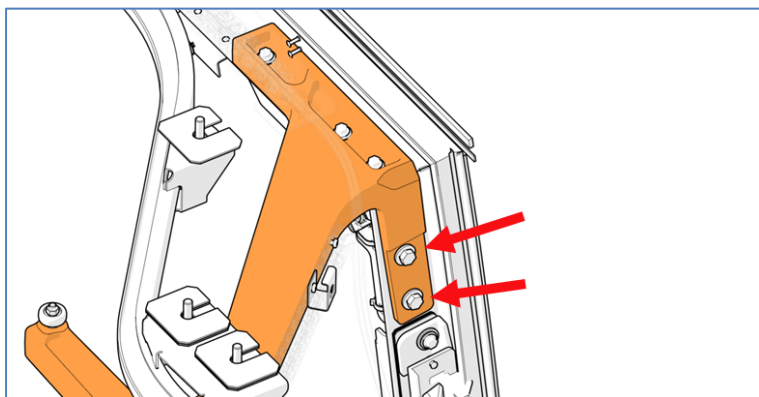

Figure 10
1. **Open the sliding door.** On the upper door arm vertical face, loosen the bolts (Figure 10).
5. Tighten to **7 lb-ft** after checking for proper Belleville washer arrangement (Figure 10).
2. Tighten the nuts to **7 lb-ft** after checking for proper Belleville washer arrangement (Figure 10).